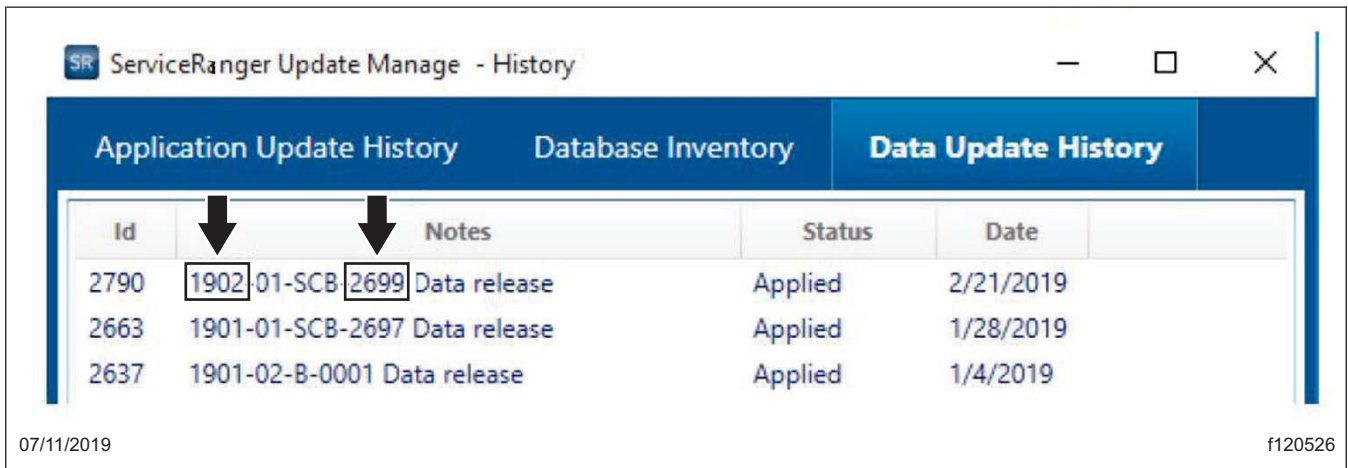

Fig. 4, Verifying the Release Number
2.4 Verify 1901-01-SCB-2682 Data release or greater is Applied. See Fig. 4.